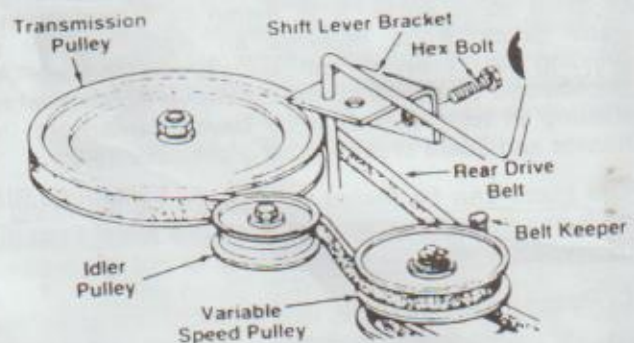

FIGURE 23
4. Push the idler pulley toward the right side of the unit. Lift the belt over the idler pulley. See figure 23.
6. Remove the two screws holding the shift lever bracket to the frame on the left side of the unit. Swing the bracket toward the right so the belt can be removed from the transmission pulley. See figure 23.